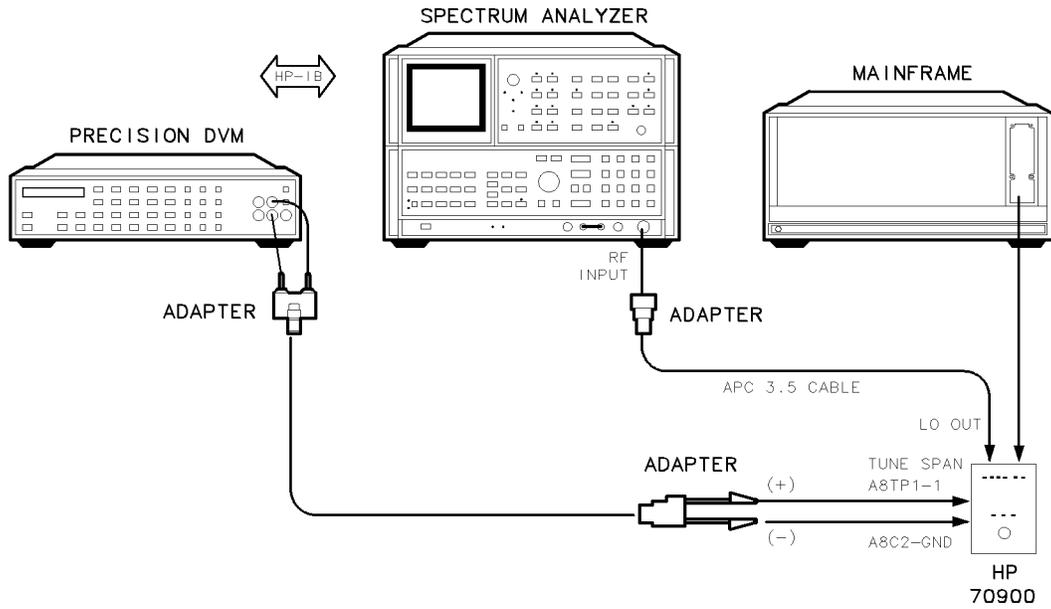
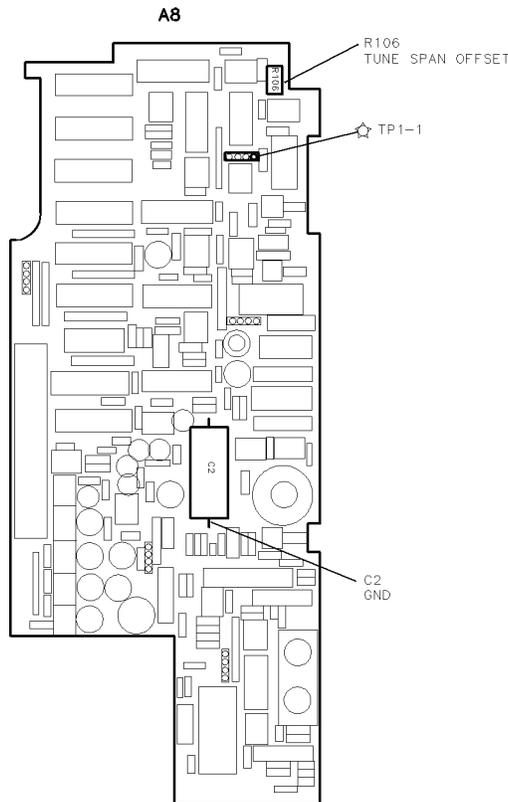
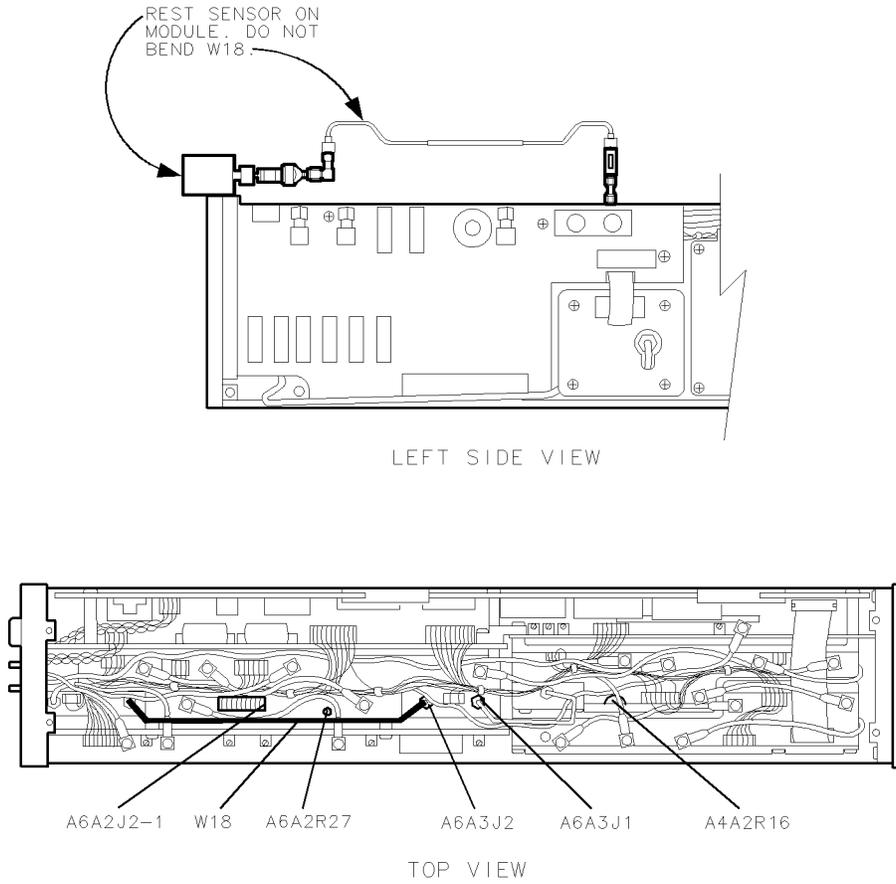

Figure 6-37. Equipment Setup for Adjustment 21. Tune + Span Offset
Figure 6-38. Locations for Adjustment 21. Tune + Span Offset
Figure 6-40. Locations for Adjustment 22. Idler Buffer
1. Remove the HP 70900B local oscillator source's cover and connect the equipment as illustrated in Figure 6-37. The DVM ground lead connects to the grounded side of A8 frequency control (C2) and the positive lead connects to A8 frequency control (TP1-1). See Figure 6-38.
5. The program will pause and instruct the user to turn off the DUT, then remove A6 YTO phase-lock loop (W18) from between the A6A3 idler buffer and the A6A4 YTO lock microcircuit. Refer to Figure 6-40 for the location of A6 YTO phase-lock loop (W18).
- g. Refer to Figure 6-40 for the location of A6A2 YTO lock (J5-1); refer to Figure 6-38 for the location of A8 frequency control (C2).